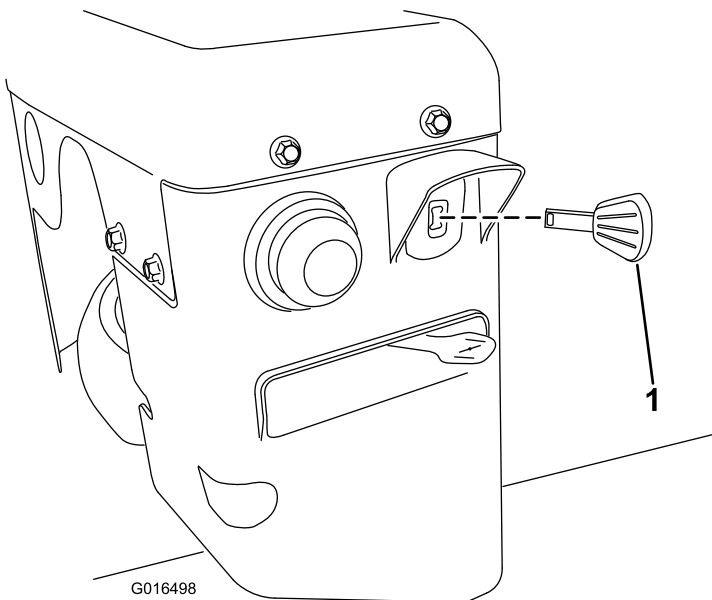

Figure 17
- Fully insert the ignition key (Figure 17).